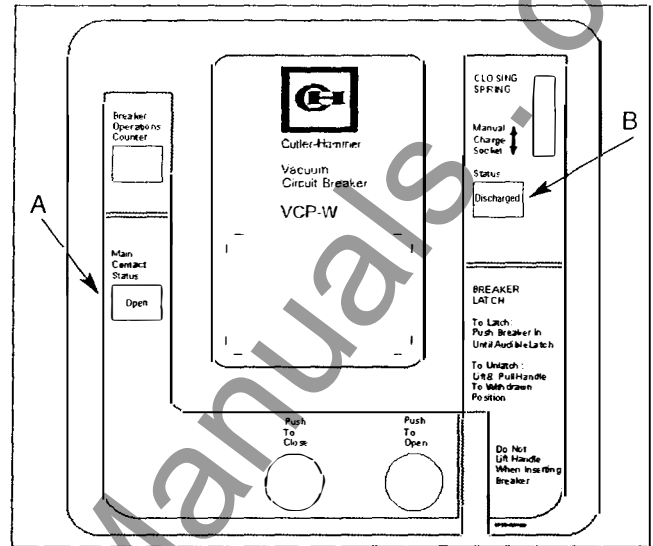

Figure 6-6 Status Indicators (“A” shows the contact status indication and “B” shows the spring indication.)
Step 1 - On the front cover identify the status indicators. MAKE SURE THE CLOSING SPRING STATUS INDICATES “Discharged” AND THE MAIN CONTACT INDICATOR SHOWS “Open” (Figure 6-6).